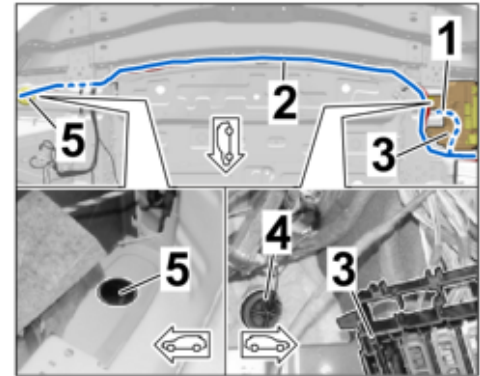

Figure 20
3.2.4 Rear end plate area and grommet / stopper for trunk floor ⇒ *Figure 20*
- Branch for exhaust flap (left) to grommet / stopper for trunk floor, left (beneath fuse box in trunk (left) → branch for exhaust flap on the right to rear closing panel → along rear closing panel (⇒ *Figure 20 -top-*) → grommet / stopper for trunk floor, right.